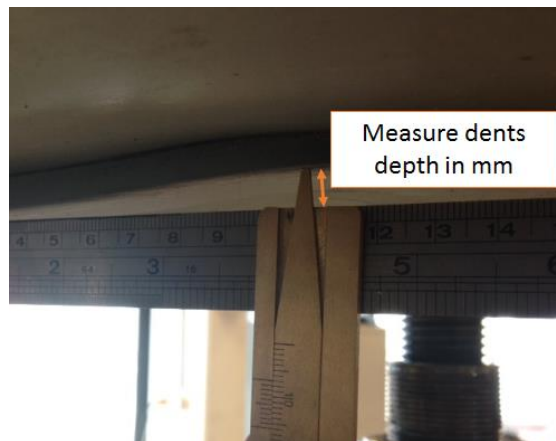

Figure 8 – Measuring the depth of enclosure damage
- a. Several pictures of the damage, taken with a high-resolution camera: If there isn't a visible open hole, crack, or tear, measure the depth of the HV battery enclosure damage (Figure 8) **while wearing proper PPE**. If the damage is not obvious, take an overall picture of the HV battery assembly, with pointers to the damaged area or areas.